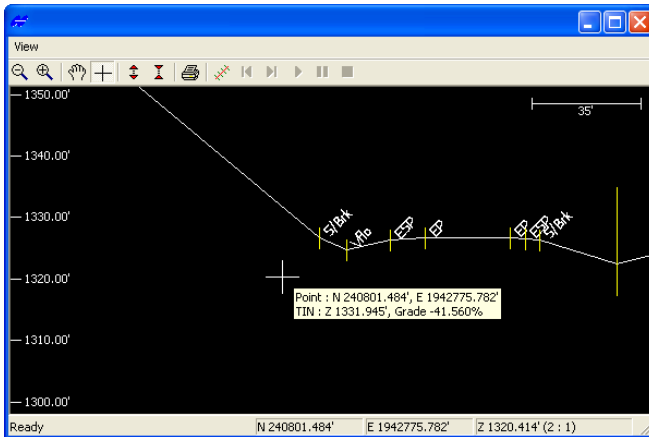

Figure 6-49. Profile View
The Profile View displays (Figure 6-49 on page 6-40) the following information:
3. On the **View** dialog box (Figure 6-49), use the toolbar to manipulate the view. See “3D-view and Profile View Toolbars” on page 1-16 for information on the toolbar buttons.